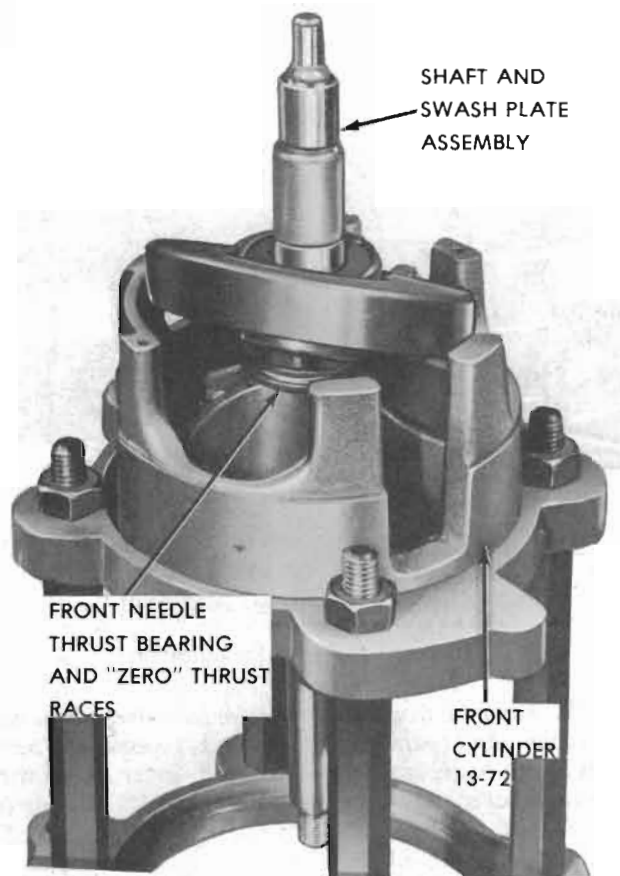

Figure 13-47 Shaft and Front Needle Thrust Bearing in Cylinder Half
2. Place front cylinder on top of compressing fixture (J-9397) as shown in Figure 13-47.
3. Generously coat with clean petroleum jelly two "zero" thrust races, and a new needle thrust bearing. Assemble races and bearing to front end of shaft and swash plate assembly and insert assembly into front cylinder (see Figure 13-47.)
13. Remove cylinder assembly from inside compressing fixture (J-9397), place on top of compressing fixture (see Figure 13-47) and disassemble rear cylinder from front cylinder using rubber mallet or hammer and wood block.